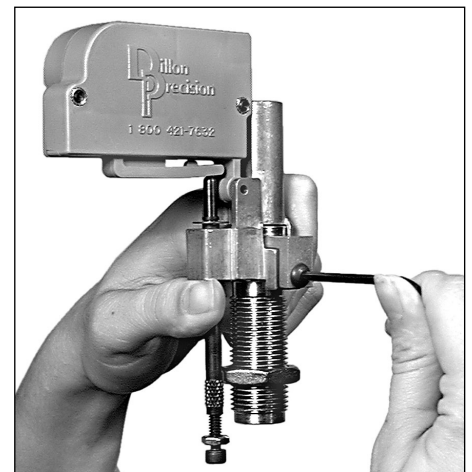

FIG 105
1. Loosen the die clamp screw FIG 105 and remove the die.